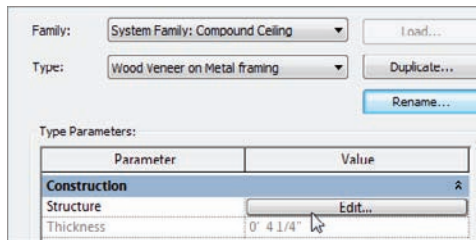

FIGURE 9.18 Clicking the Edit button in the Structure row to gain access to the ceiling's structural composition
6. In the **Structure** row, click the **Edit** button, as shown in Figure 9.18.